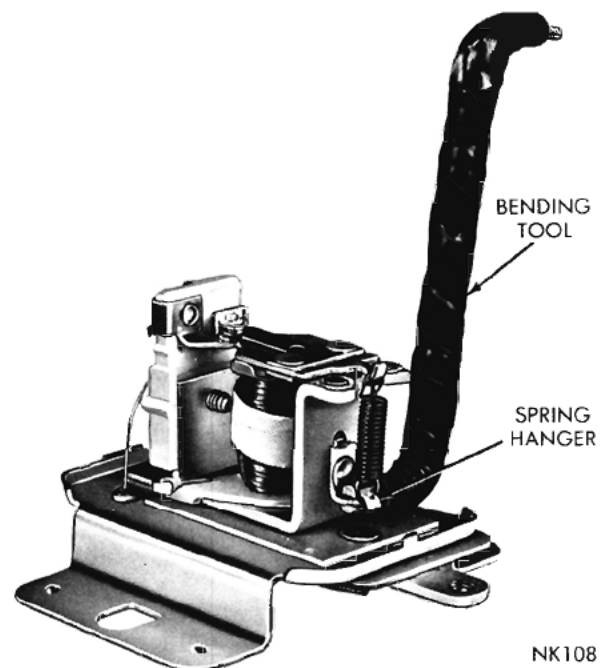

Fig. 13—Adjusting the Spring Tension
Step 1—Adjust the upper contact voltage setting as necessary by bending the regulator lower spring hanger **down** to **increase** voltage setting, **up** to **decrease** voltage setting. Use an **insulated tool** to bend the spring hanger (Fig. 13). The regulator must be installed, correctly connected, and retested after each adjustment of the lower spring hanger.